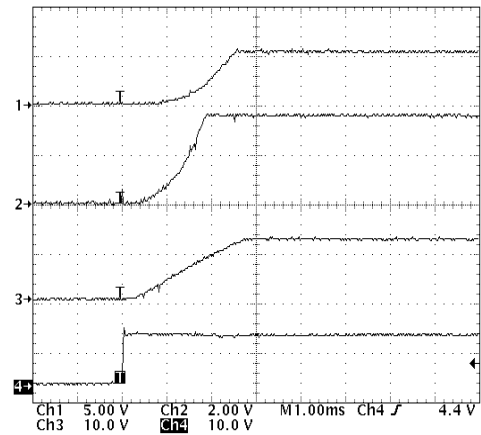

FIGURE 4. Start-Up
7. To observe the start-up waveform and soft-start process, leave all switches of SW₁ at ON position. Put scope probe Channel 1, 2, 3, and 4 on 5-V output, 3.3-V output, 12-V output, and input voltage, respectively. Set scope trigger on rising edge of Channel 4. The single event captured should look like Figure 4.
The channel lineup for Figure 4 is as follows: